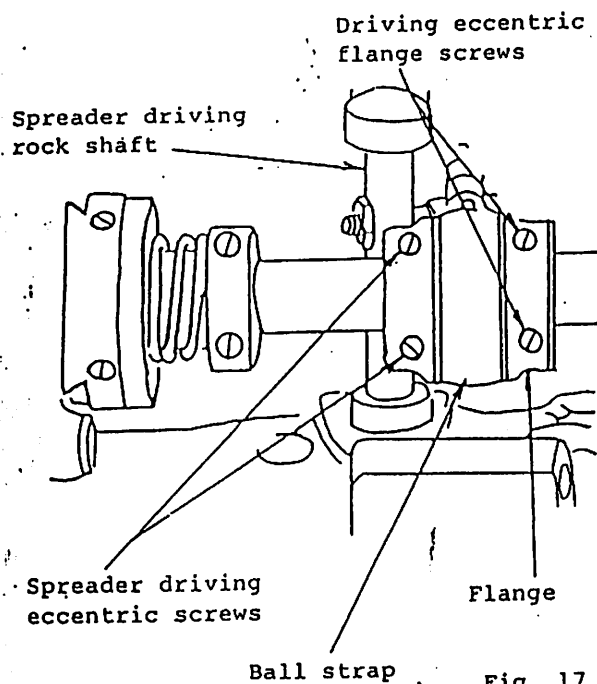

Fig. 17
The sidewise movement of the spreader may be adjusted for sewing under abnormal conditions. Under normal conditions, maximum spreader movement is generally used. To adjust, tilt machine back on its hinges, loosen the two spreader driving eccentric screws (Fig. 17), and the two spreader driving eccentric flange screws. Move eccentric to left to increase movement or to right to decrease movement. When correctly positioned, tighten the two spreader driving eccentric screws first, hold flange against strap and tighten flange screws. Then refer to preceding information regarding positioning of spreader.
**Caution:** When increasing sidewise movement, allow sufficient clearance between spreader driving rock shaft (Fig. 17), and left side of eccentric ball stud is in its highest position.